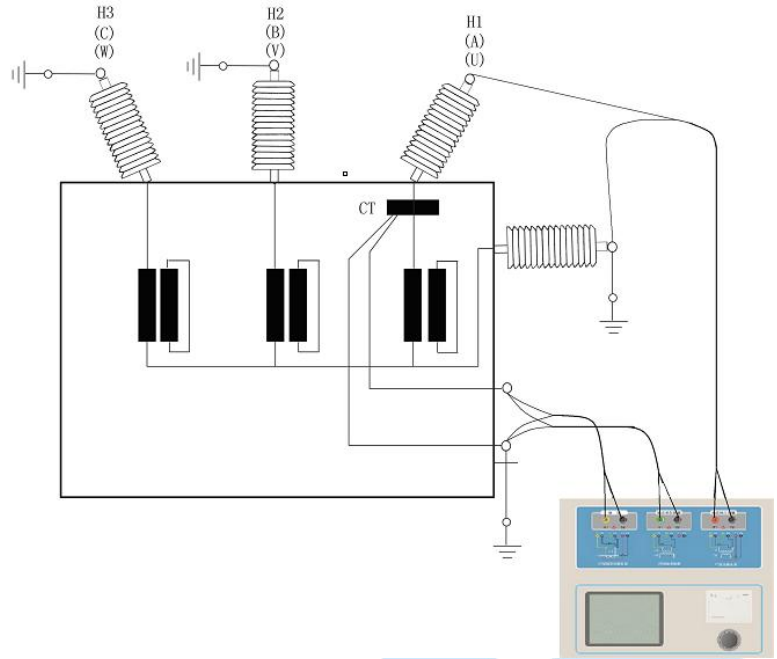

Figure D.3 ZXHQ-B on the transformer bushing testing at the time of CT Connection
2. ZHXQ-B for transformer testing casing CT Connection shown in Figure D.3.